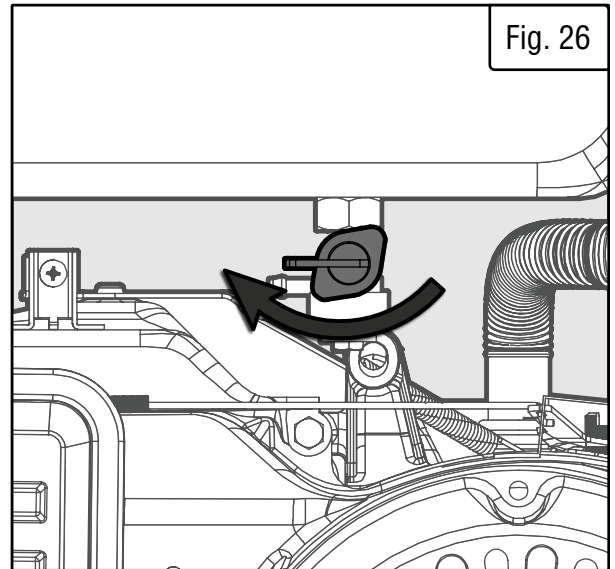

Fig. 26
2. Turn the fuel valve (Fig. 26) to the OFF position.